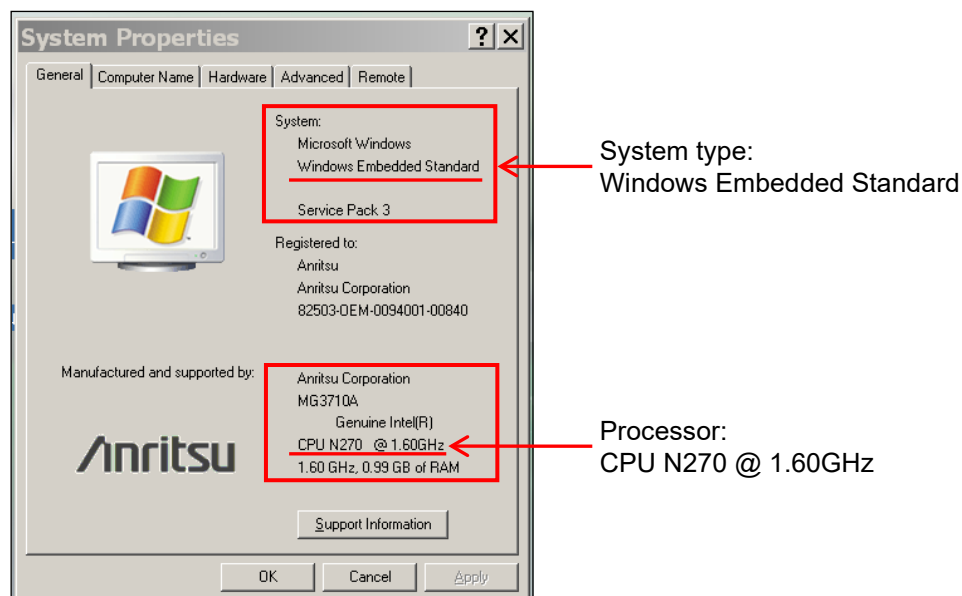

図9.7-1 Windows Embedded Standard 2009 (WES 2009)
- 図 9.7-1 Windows Embedded Standard 2009 (WES 2009)